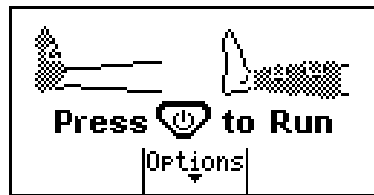

Figure 14 - Foot and Single-Chamber Calf or Thigh/Calf Garments Connected
- 2.3.2 Figure 14 shows a foot garment and a single-chamber calf or thigh/calf garment connected to the pump.